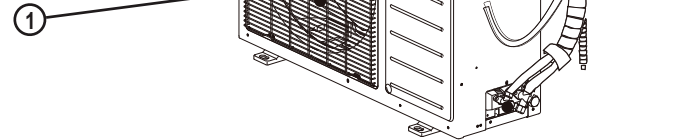

Fig. 3 —Parts List
2. Use a rigid base to support the unit in a level position. If conditions or local codes require the unit be attached to a pad, tie down bolts should be used and fastened through knockouts provided in unit base pan. Refer to unit mounting pattern in Fig. 3 to determine base pan size and knockout hole location. For hurricane tie downs, contact distributor for details and PE (Professional Engineer) Certification, if required. For extreme outdoor conditions applications refer to the 'Cold Climate Application Guideline Ductless'.